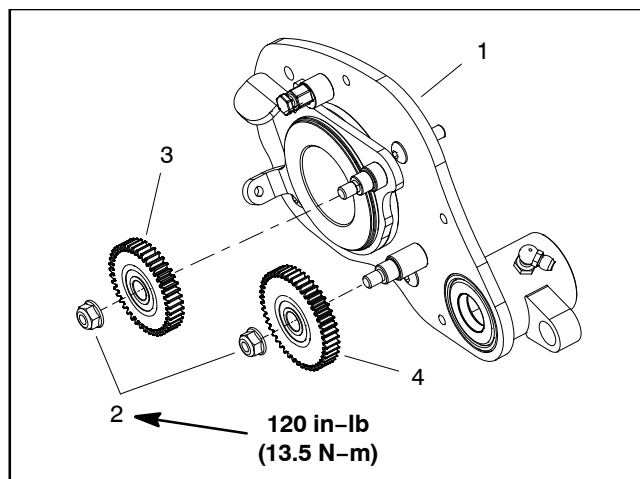

Figure 29
4. Install idler gears to drive plate assembly (Fig. 29). Torque flange nuts that secure idler gears **120 in-lb (13.5 N-m)**.
6. Fill groomer cover with approximately five (5) ounces (142 grams) of Mobil XHP221 grease (or equivalent). Install new gasket and then groomer cover assembly to RH drive plate (see Groomer Cover (Counter Rotating Groomer Drive) in this section).